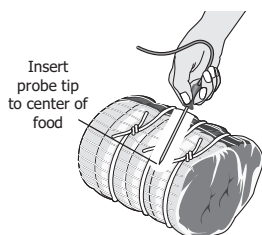

**Figure 21: Probe receptacle location/insertion point**
The probe receptacle is located at the top of the oven cavity as shown in Figure 21.
**CAUTION** Handle the meat probe carefully when inserting and removing from food or probe receptacle. Do not use kitchen utensils, such as tongs, to pull on meat probe cable when inserting or removing from food or receptacle. Use the provided handle, as shown in Figure 21. To avoid possibility of burns after cooking, carefully unplug meat probe using a pot holder to protect hands.